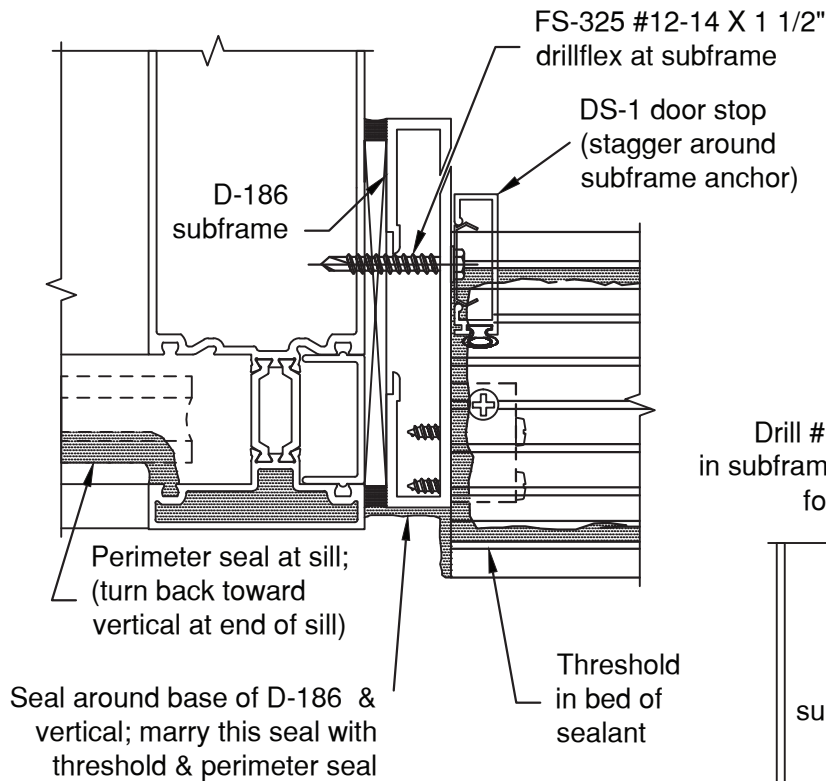

Figure 31
- C.2.4 Bed threshold in sealant, attaching to TH-44 clips with FS-42, #12 x 1/2" Phillips Flat Head screws. Marry threshold seal with subframe and main system seal. **SEE FIGURE 31.**